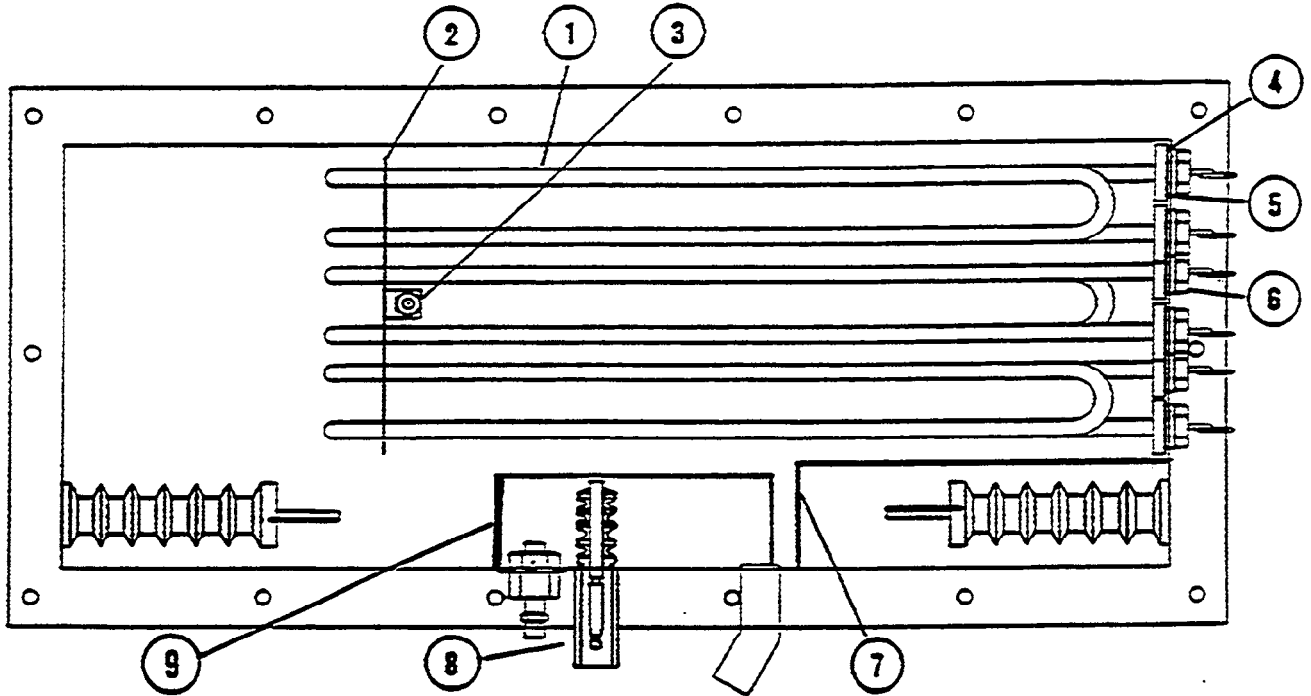

Fig. 6a TOP VIEW - Steam Generator Assembly*
* Refer to Fig. 6a and 6c for further information.
* Refer to Fig. 6a and 6b for further information.